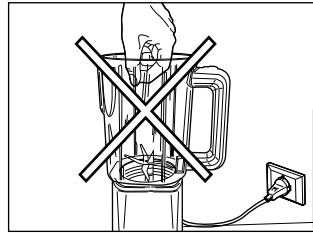

Fig. 10
- Never insert hands into the goblet whilst the appliance is plugged in (Fig. 10). Always use the food presser.